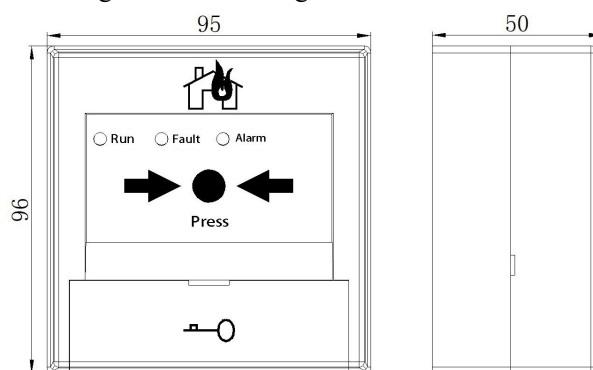

Figure 1 Schematic diagram of the appearance of the alarm button
4.1 . Alarm button contour diagram shown in Figure 1 below: